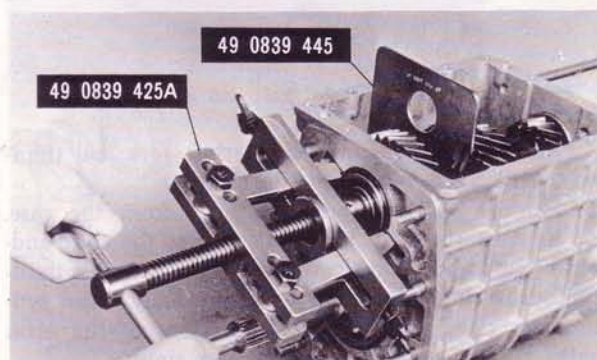

Fig. 7-5 Removing counter shaft front bearing
25. Remove the snap ring that secures the counter shaft front bearing to the front end of the counter shaft. Using the **bearing puller** (Part No. 49 0839 425B) shown in Fig. 7-5, remove the counter shaft front bearing.